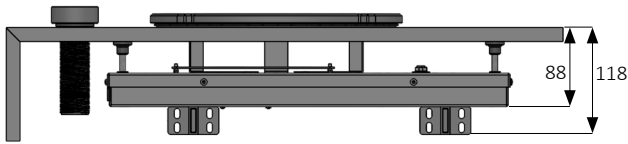

fig. 3
- As soon as the PITT® cooking module is planned above a drawer, for example, consider the total thickness of the unit and support set of 118 mm (Top Side and Front Side) measured from the top of the worktop (Fig. 3).
- To prevent bending of the worktop, the induction hob need be supported with the PITT® cooking support bar set (Fig. 3 and 4).